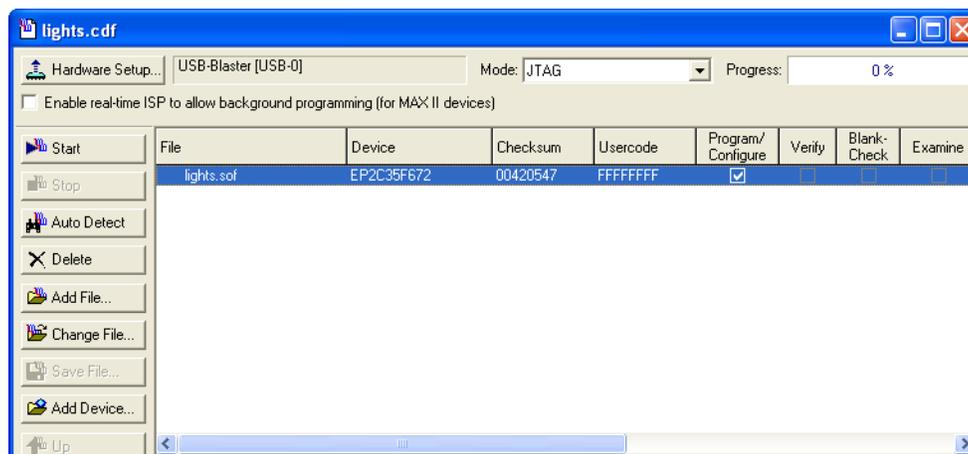

Figure 18. The Programmer window.
2. Select Tools > Programmer to reach the window in Figure 18.
6. At this point the window settings should appear as indicated in Figure 18. Press **Start** to configure the FPGA.